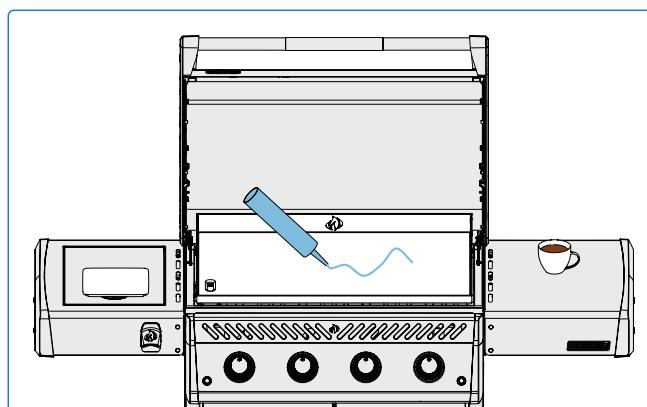

Fig. 10
- The griddle plate should be oiled before cooking to prevent food from sticking. See “Can you Season a Stainless Steel Griddle?” section. (Fig. 10).